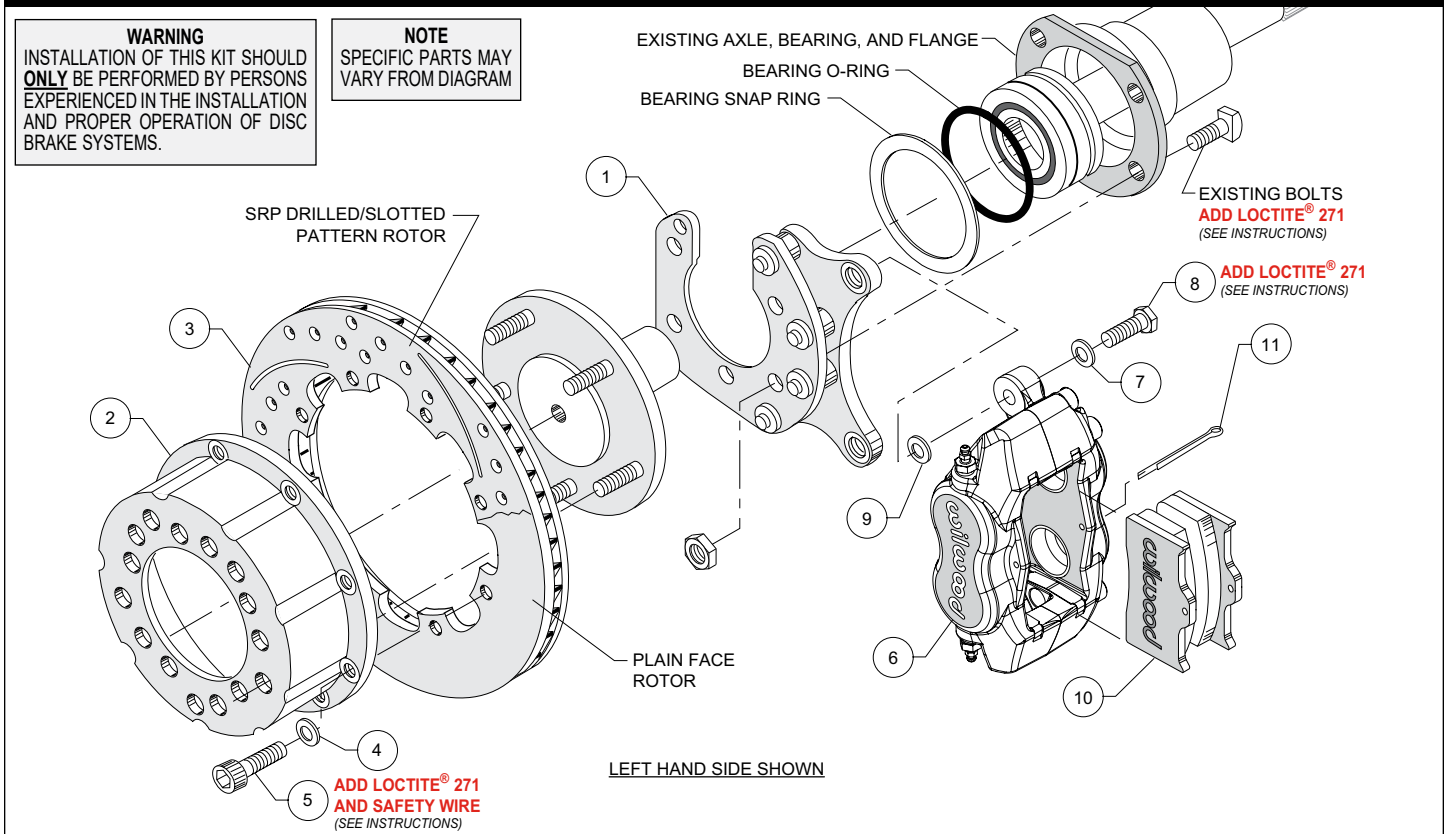
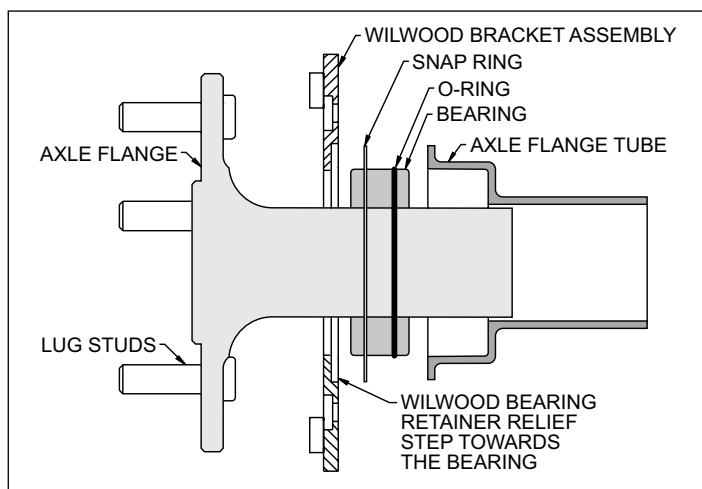
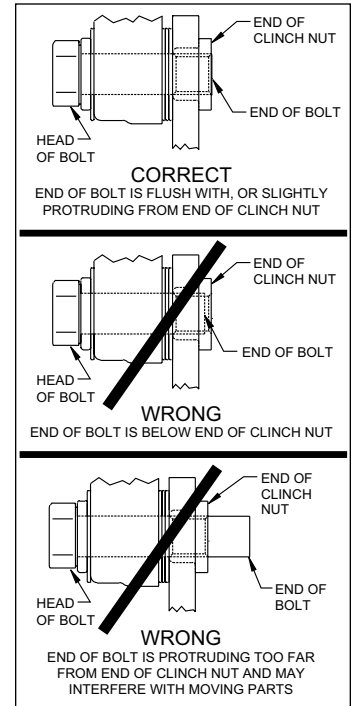

Figure 3. Typical Installation Configuration
Figure 6. Retainer / Axle Diagram
Figure 8. Clinch Nut Engagement Diagram
NOTE: Numbers in parenthesis refer to the parts list and Figure 3 on the preceding pages.
CAUTION: All mounting bolts must fully engage clinch nuts. Be sure to check that all bolts are either flush or protruding through flanged side of clinch nut after shimming, Figure 8.
- Temporarily remove the snap ring and o-ring from the bearing. Use care so as not to damage those components. Orient the bracket assembly (1) as shown in Figure 3 and slide it onto the axle and past the bearing. Reinstall the snap ring and o-ring onto the bearing, again using care. Insert the axle and bracket assembly into the axle housing. Ensure that the bracket assembly plate fits flush against the axle housing flange. **NOTE:** The bearing snap ring should be sandwiched between the axle housing flange and the new bracket assembly, Figure 6. Secure bracket assembly to the axle housing flange using the Original Equipment Manufacturer (OEM) bolts and nuts, Figure 3. Stock OEM hex nuts that retain the bracket (1) should be on the wheel side of the bracket. Apply red *Loctite*® 271 to the OEM bolt threads and torque to OEM specifications. **NOTE:** Make sure the heads of the caliper mounting bracket insert nuts are **FACING OUTWARD TOWARDS THE WHEEL**, see Figure 3.
- Orient the rotor (3) and the hat (2) as shown in Figure 3. Attach rotor to hat using bolts (5). Apply red *Loctite*® 271 to the bolt threads and torque to 180 **in-lb** using a criss-cross pattern. Safety wire bolts (5) using standard 0.032 inch diameter stainless steel
- Align the correct hole pattern in the hat (2) with the stud pattern on the axle flange and slide into place, Figure 3. **NOTE:** The rotor/hat must fit flush against the axle flange or excessive rotor run out may result. Install three lug nuts (finger tight) to keep the rotor/hat assembly in place while continuing with the installation. **NOTE:** Some OEM and after market axles come with stud sizes larger than 0.50" diameter. Verify stud size and have a qualified machine shop drill the bolt circle of the hat/rotor to the correct stud size, if necessary.
- Mount the caliper (6) onto the caliper mounting bracket (1) using bolts (8) and washers (7), as shown in Figure 3. Initially place one .032" thick shim (9) on each bolt between the caliper and the bracket, Photo 1. Temporarily tighten the mounting bolts and view the rotor (3) through the top opening of the caliper. The rotor should be centered in the caliper, Photo 2. If not, adjust by adding or subtracting shims between the bracket and the caliper. Always use the same amount of shims on each of the two mounting bolts. **NOTE:** The end of each bolt must be flush with or slightly protruding from the head of the clinch nut, as shown in Figure 8. If necessary place spare shims between washer (7) and caliper mounting ear to achieve the proper clinch nut engagement. Once the caliper alignment and clinch nut engagement are correct, remove the bolts (8) one at a time, apply red *Loctite*® 271 to bolt threads, and torque to 30 ft-lb. Caliper mount bolts may be safety wired for additional security.
- Install the disc brake pads (10) into the caliper (6), with the friction material facing the rotor (3), and secure in place using cotter pin (11), Photo 3.